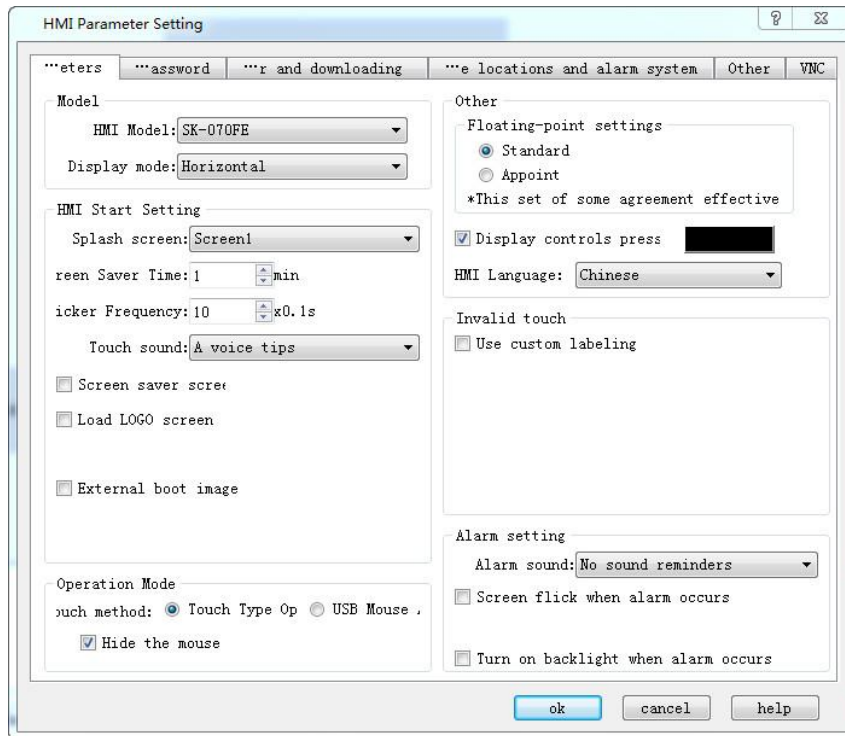

Figure7-3 HMI Parameter Setting dialog box
Double click "HMI Parameter Setting: in the Project Manager, then a dialog box pops up, as shown in Figure 7-3:
1. You can modify the parameter settings through Preference Setting in the drop-down menu Settings, or double-click the HMI Parameter Settings in Setting, Project Manager. Then a pop-up dialog box is shown as Figure 7-3 below: